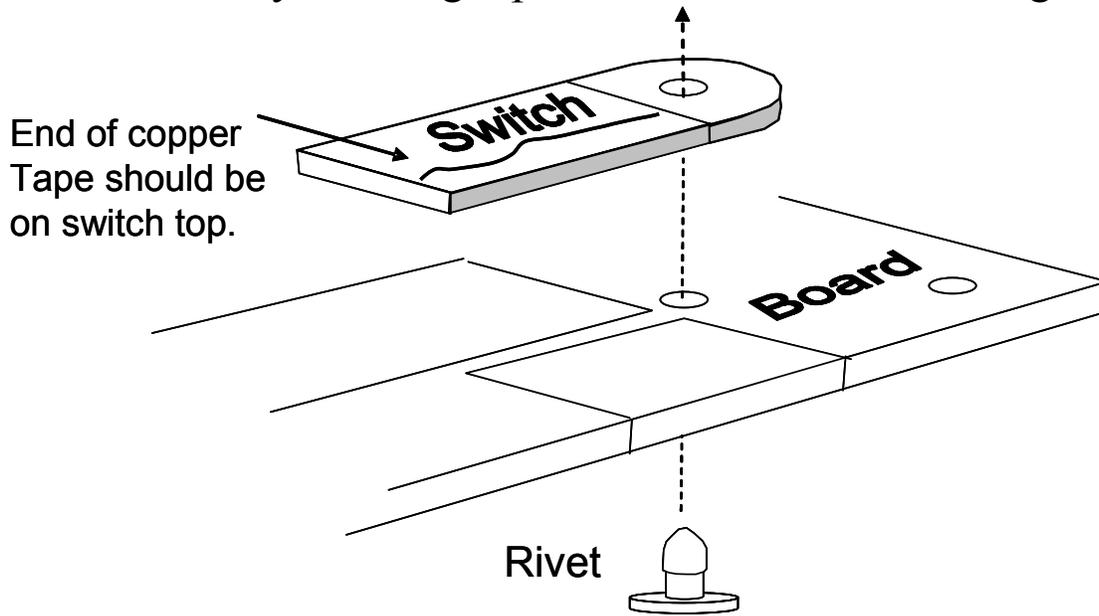

Figure 13.
Step 5 - Rivet: The plastic rivet must be installed from the back of the circuit board in the hole closest to the gap marked “Rivet” (Figure 13). Place the rivet with the flat head down on a table or hard surface. Put the circuit board face up over the rivet post and push down hard around the